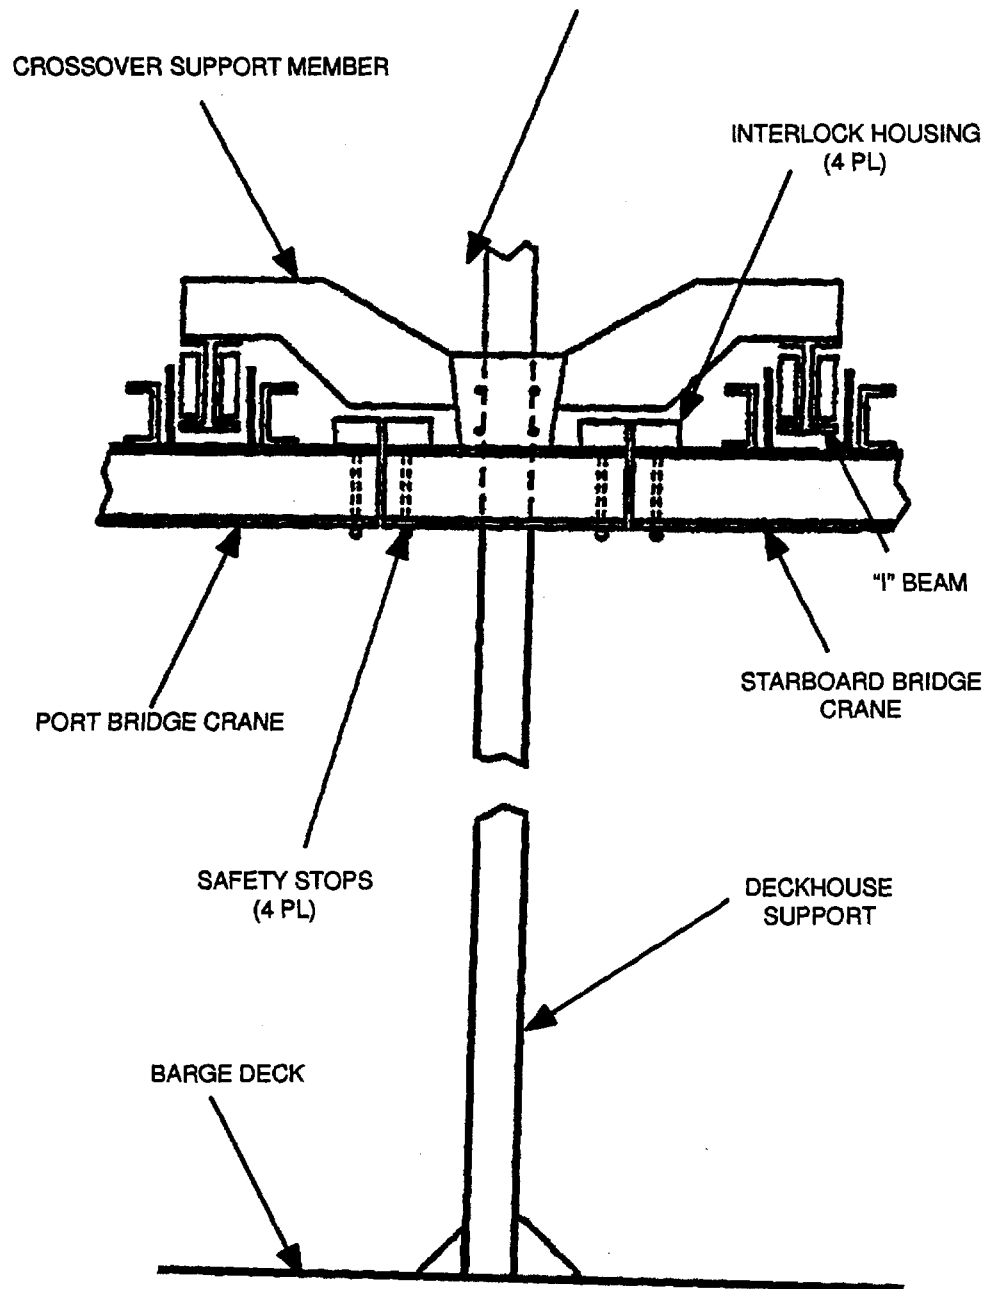

Figure 2-7 . Bridge Crane Crossover Assembly
- a. Move both portside and starboard side cranes to crossover (Figure 2-7).